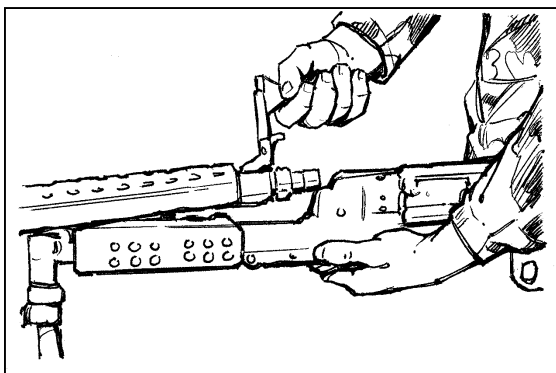

Figure 3-24. Replacement of the barrel assembly.
a. **Replacing the Barrel Assembly.** Insert the gas regulator plug into the gas hole bushing so that it is on the number one setting. (number 1 gas setting on the regulator faces towards the barrel). Place the gas collar over the front end of the gas regulator plug, while pushing against the spring, rotate counterclockwise until it stops. Insert one of the metal tabs of the heat shield in to the hole located of the sides of the gas hole bushing, than rotate it so that the other tab locks in place. Then push down on the heat shield so that it snaps onto the barrel. With gas regulator downward and carrying handle in the vertical position, place barrel on the barrel support (located on the gas cylinder). Keeping the gun upright, pull the barrel to the rear ensuring the gas regulator is guided into the gas cylinder. Pull the barrel fully into the receiver and rotate the carrying handle completely to the right, ensuring to count the number of clicks. If the number of clicks fall between 2 to 7, the headspace is set correctly. If the number falls outside 2 to 7, turn it in to the unit armor (make sure that the threads on the barrel are located on top and bottom and on the inside of the receiver make sure that the threads are located on the left and right) (Figure 3-24).